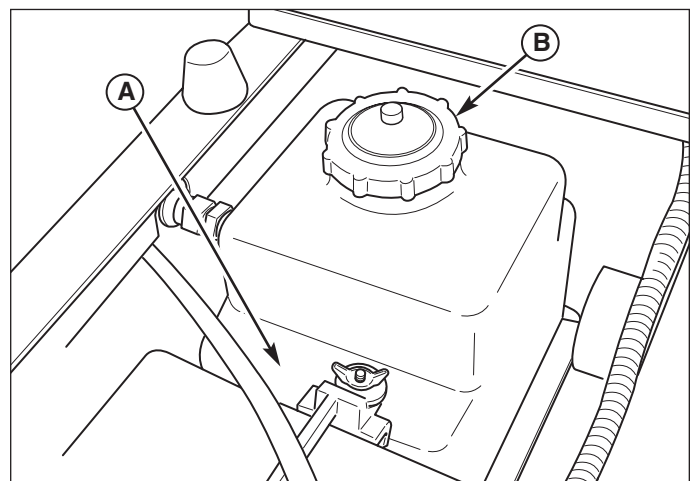

Figure 16. Hydraulic Oil Reservoir
1. Visually check that the hydraulic oil level is filled to the recess area (A, Figure 16) of the hydraulic oil reservoir.
3. If necessary, remove the reservoir cap (B) and add either Mobil 1™, 15W-50 synthetic oil or Castrol Syntec™ 5W-50 oil. **DO NOT** use conventional oils. Make sure area around the filler neck is free of dust, dirt, or other debris.